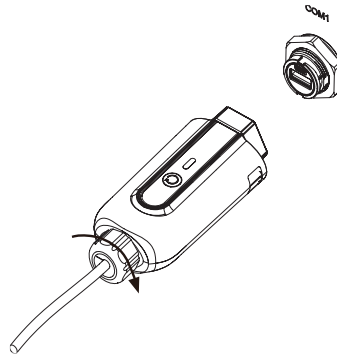

Figure 5-12
- Step5: Connect the "INV-Logger A210" to the "COM1" as shown in the figure 5-12.